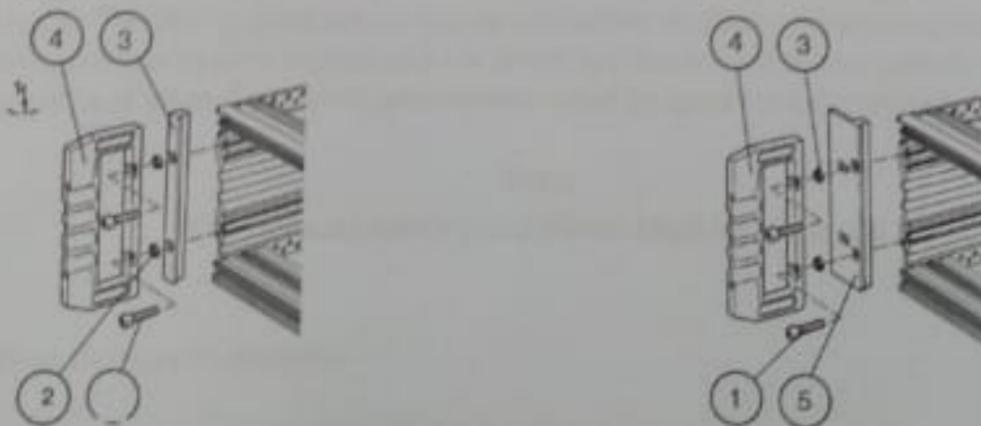

Fig. 2-1 Mechanical Installation 19-inch adaptors
The 19-inch table model may be installed in an Air traffic control desk at any time. By means of a 4 mm Allen-type wrench remove the for screws (1) and the handles (4). Refer to Figure 2-1. Remove the two adaptors "FRONT" (3) and replace them by the 19-inch adaptors (5). The 19-inch adaptors are supplied with each unit.